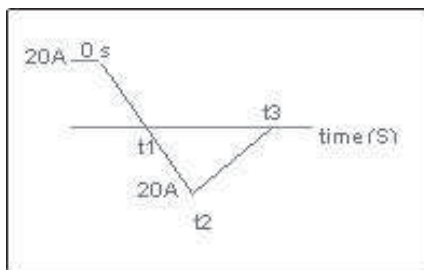

FIGURE 2.10 Current through the freewheeling diode during reverse recovery.
**SOLUTION.** (a) A typical current waveform during reverse recovery process is shown in Fig. 2.10 for an ideal diode.